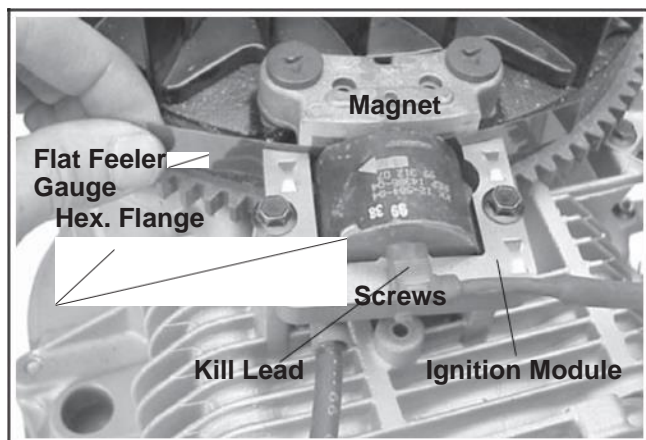

Figure 11-48. Installing Ignition Module.
2. Insert a **0.25 mm (0.010 in.)** flat feeler gauge or shim stock between the magnet and ignition module. See Figure 11-48. Loosen the screws so the magnet pulls the module against the feeler gauge.